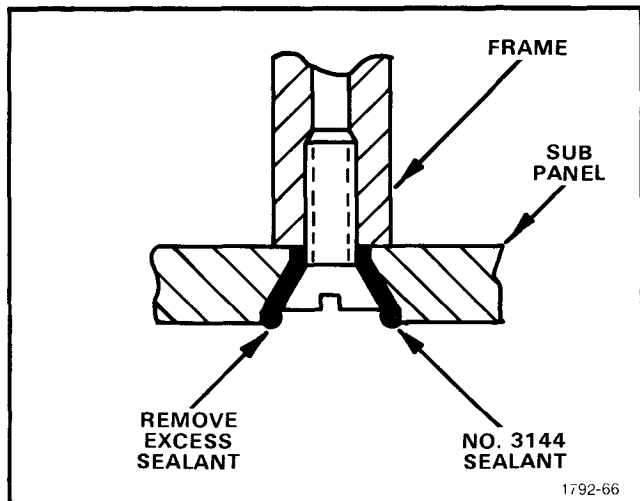

Fig. 5-12. Detail of Subpanel screwhole sealing.
12. Attach Subpanel to the three Frame Sections (See Fig. 5-12)
1. Fill the countersunk screw holes on the Subpanel with No. 3144 sealant. See Fig. 5-12.